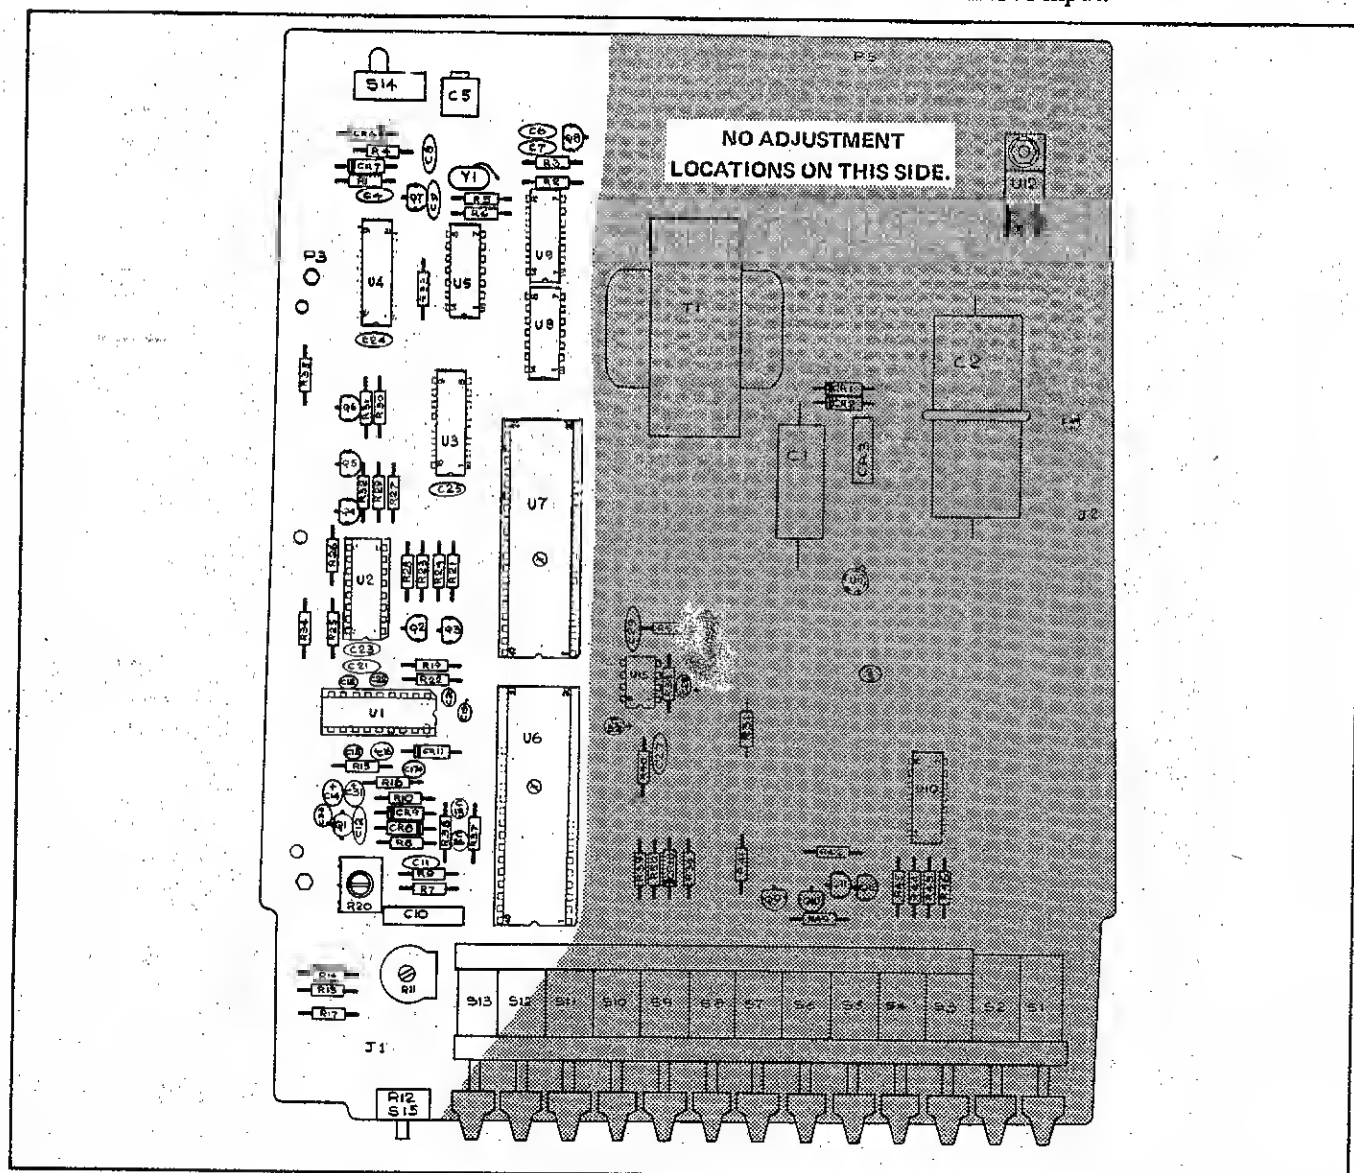

Figure 4-1. Main PCB (Top View)
6. Reduce the input level until the display becomes unstable and then try to adjust R11 (internal trigger level, see Figure 4-1) for the reference reading as noted in step-4.
4. While observing the display adjust the time base oscillator control (C5) through the rear panel, see Figure 4-1, to obtain a reading of overflow 000000 \pm 5.